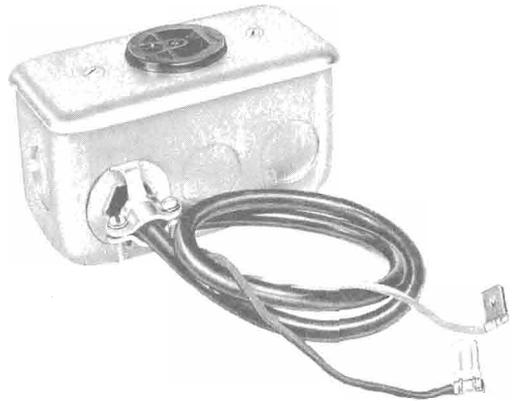

Fig. 19—KS-19580, List 51 Receptacle Assembly
- 4.03 One KS-19580, List 51 receptacle assembly (Fig. 19), must be used in conjunction with a KS-19261, List 1 light control unit in multiple installations where KS-19207 light units without blowers are used.
- 4.08 One KS-19580, List 51 receptacle assembly (Fig. 19), must be used in each booth in conjunction with a KS-19261, List 1 light control unit in multiple installations where KS-19207 light and blower units are used.